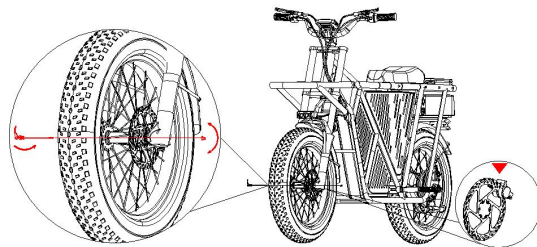

Figure 2-1-3
2.3.Assemble the front wheel: Place the front wheel on the suspension fork with the disc brake on the left side of the e-bike. Take out the quick-release bag from the accessory box, insert it into the front wheel axle hole, tighten the quick-release nut to the appropriate tightness, move it downward, and install the handle (Figure 2-1-3).